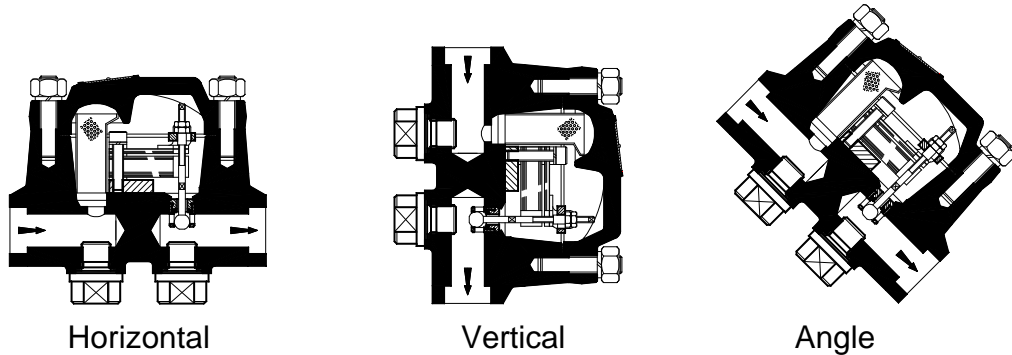

Fig.5 All position installation
- a. The trap can be installed in any convenient position see fig 5. In the vertical position with the inlet on top, the trap is self-draining and therefore freezeproof, provided the condensate can drain away see fig 6. Direction of flow is indicated by arrows- integrally forged under the body and on the cover.